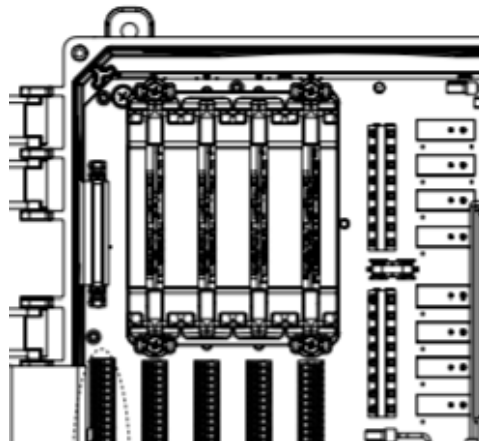

Figure 3
5. Install the new option board by inserting into the edge connector. Boards will only fit one way. See figure 3 for the board locations. Insert the 8-32 screws into the mounting holes in the option board retainer, and to secure it again to the relay board.